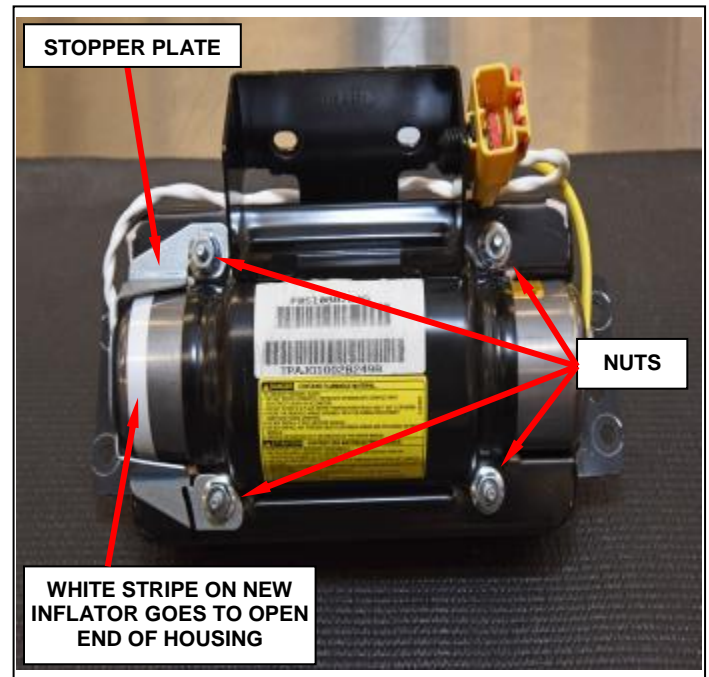

Figure 65 – Stopper Plate and Nuts
- o. Position the stopper plate to the airbag housing (Figure 65).
- p. Install the four **NEW** mounting nuts to the airbag housing and tighten to 53 in. lbs. (6 N·m) (Figure 65).